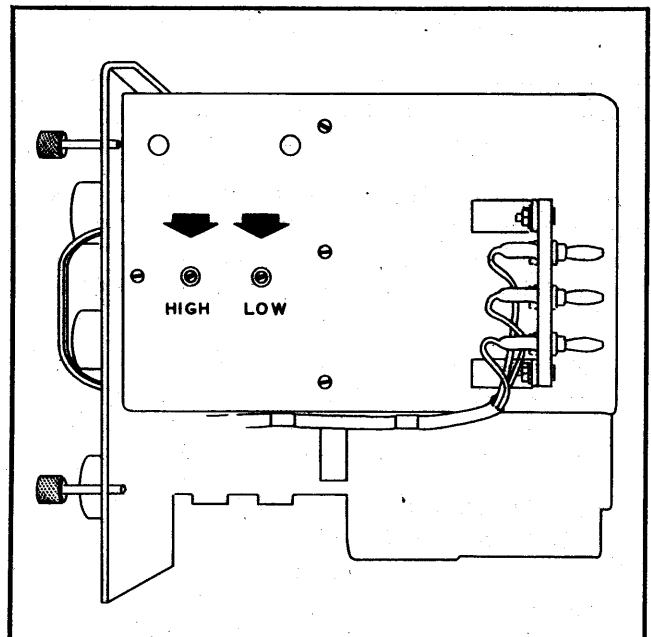

Figure 5-6. Frequency Meters BC-221-A, -C, -D, -F, -J, -K, -L, -M, -O, -P, -Q, -R, -T, -AC and -AF—Right Side View of Chassis
g. Rotate the trimmer capacitor ("LOW") toward the right with a small screw driver until a zero beat is obtained. The "LOW" and "HIGH" trimmer capacitors are adjusted through holes in the right-hand wall of the frequency meter chassis. (On Frequency Meters BC-211-B, -E, -N, -AA, and -AE the trimmer capacitors are adjusted from the bottom side of the chassis.) (See figs. 5-6 and 5-7.)